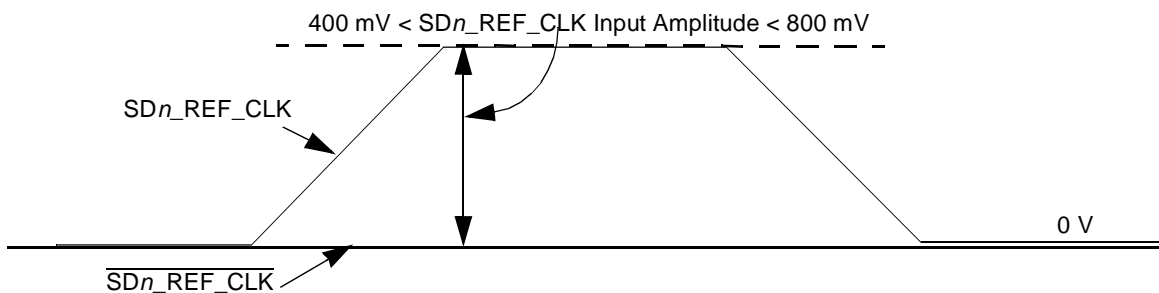

Figure 55. Single-Ended Reference Clock Input DC Requirements
- The `SDn_REF_CLK` input average voltage must be between 200 mV and 400 mV. Figure 55 shows the SerDes reference clock input requirement for single-ended signaling mode.